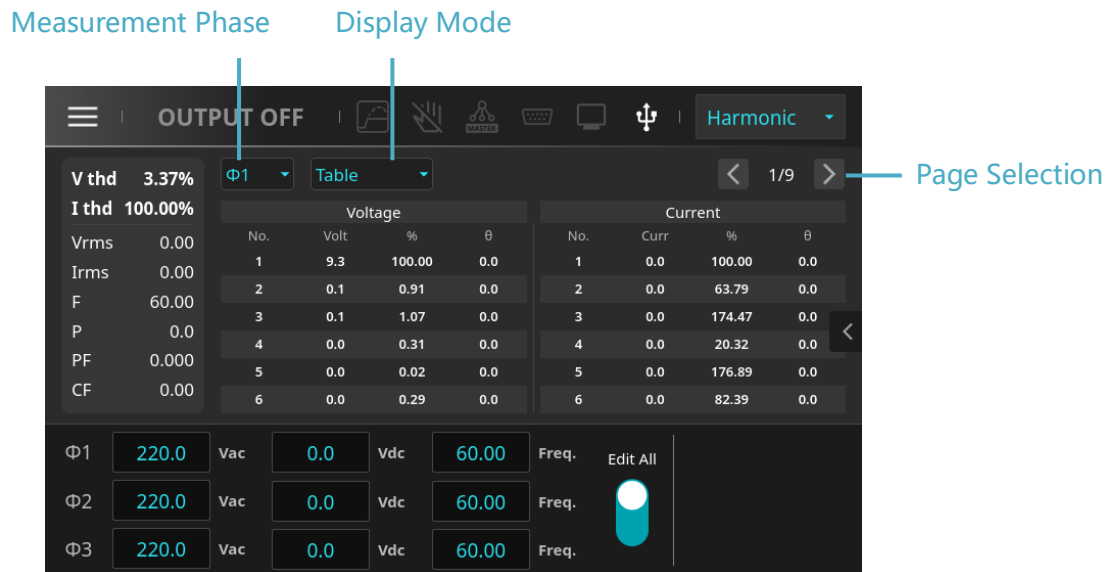

Figure 4-17: Three-phase mode main screen – Harmonic Measurement Page (List View)
Figure 4-17 below shows the list interface of the Harmonic measurement page, which simultaneously displays harmonic data from the 1st to the 50th order for both voltage and current at the fundamental frequency (F). It includes voltage/current values, percentages, and phase for each harmonic order. Users can click the